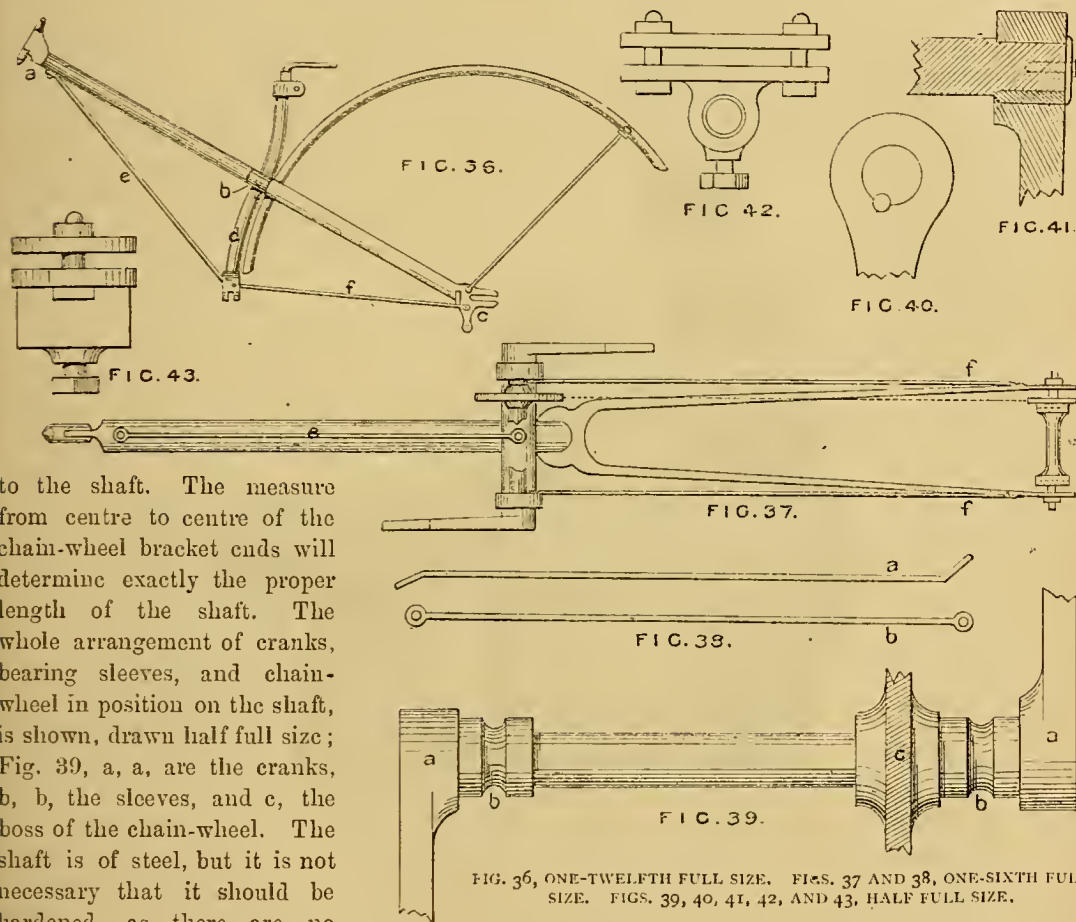

FIG. 36, ONE-TWELFTH FULL SIZE. FIGS. 37 AND 38, ONE-SIXTH FULL SIZE. FIGS. 39, 40, 41, 42, AND 43, HALF FULL SIZE.
**W**E have now to consider some of the details of our Safety Bicycle frame. It will be observed by the intelligent reader, that the function of the backbone, in conjunction with the back forks, is that of a beam or girder that has got to carry a load. Treated as a load-carrying beam, it is supported at the points, a and e, Fig. 36, and the load is carried at the point, b, which is near the centre of the length. Now, as the frame is constructed
In Fig. 36 is shown the L pin for the saddle. This pin is a solid steel forging. It should fit the tube exactly, so that it will clamp tightly with the split collar. If the top part of the tube is quite vertical, then the L pin will be bent to a right
Fig. 36 also shows the mud guard in place. This mud guard is about one-third the circumference of the wheel. It is fixed in its place at three points, namely, at the chain-wheel bracket, the fork, and by two stays. Its lower end is attached to the solid part of the tube, about  $\frac{1}{2}$  inch above the chain-wheel bracket, by a small screw stud;
a similar stud fixes it in the *oxter* of the fork at b. The word *oxter* is a Scotticism, very expressive of the part meant, and, as a single word, has no equivalent in English. Its outer end is supported by two stays of  $\frac{1}{4}$  inch round wire, in the same manner as described for the front wheel, except that its lower ends are not attached to the ends of the axle pin, as in the former, but fixed to the solid part of the fork ends by small screw studs, as shown at c, Fig. 36, leaving a clear space to fit an attachment for adjusting the rear driving-wheel, and particularly the tension of the chain, and as this adjustment is a most important matter, we will leave it to be fully described in next paper. (To be continued.)